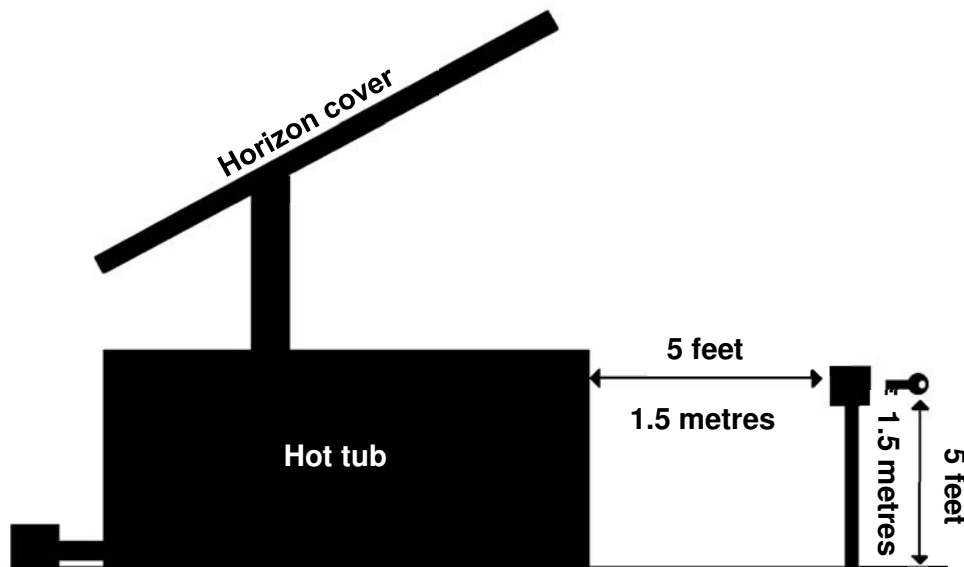

Figure 29
- ◆ The key switch must be permanently mounted and located 5 ft. (1.5 m) away from the tub and 5 ft. (1.5 m) above the deck or ground level. This ensures the user has a clear view of the Horizon cover when operating it. Furthermore, the key switch terminal should be located in a place where no water downpour or debris could fall on it. (Figure 29)